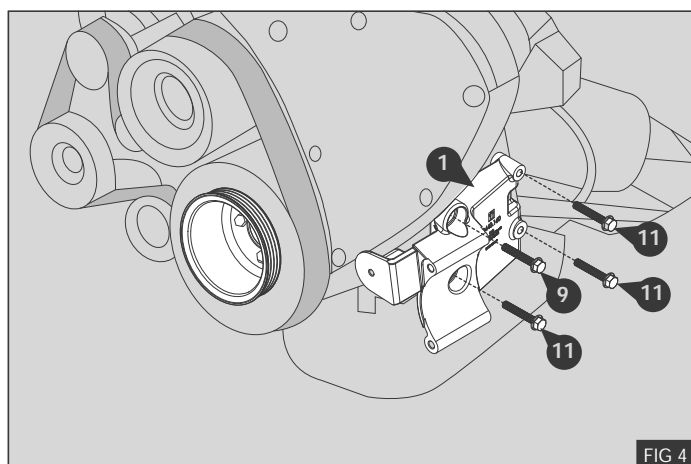

FIG 4
1. Fit the mount bracket 1, to the engine using bolts 11 - Fig 4
2. Torque bolts 9 & 11 to 44Nm / 32Lb ft - Fig 4